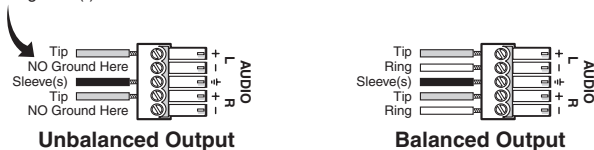

Figure 2-8 — Audio output connector wiring
- ⑧ **Stereo audio 5-pole captive screw connector** — Connect audio devices, such as an audio amplifier or powered speakers, to these connectors. These 3.5 mm, 5-pole captive screw connectors output unamplified, line level audio. Figure 2-8 shows how to properly wire an output connector.